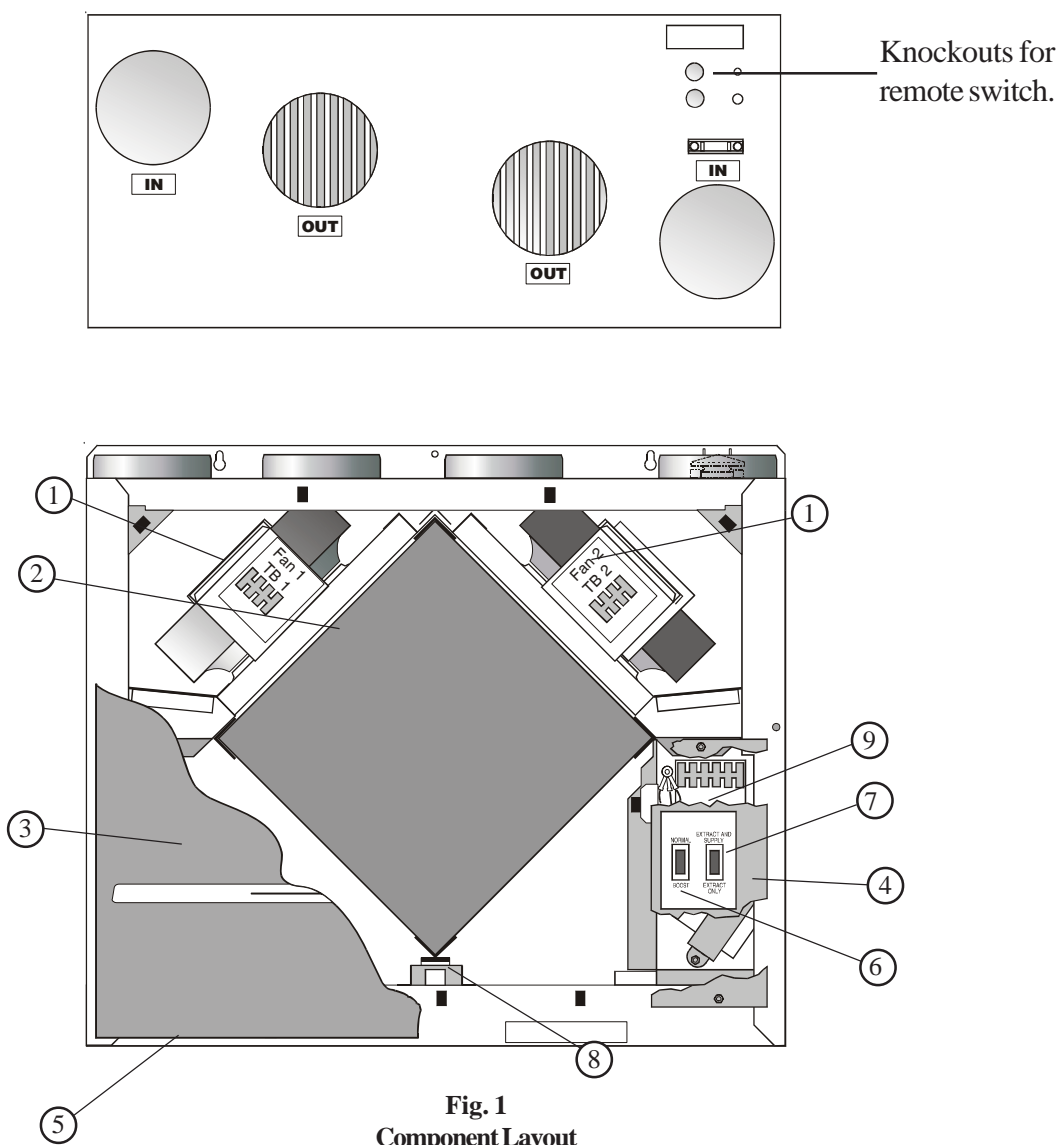

Fig. 1
- 2.7.4 Referring the Fig. 1, remove the front Decor Panel and gain access to the electrical panel by removing the electrical panel cover.